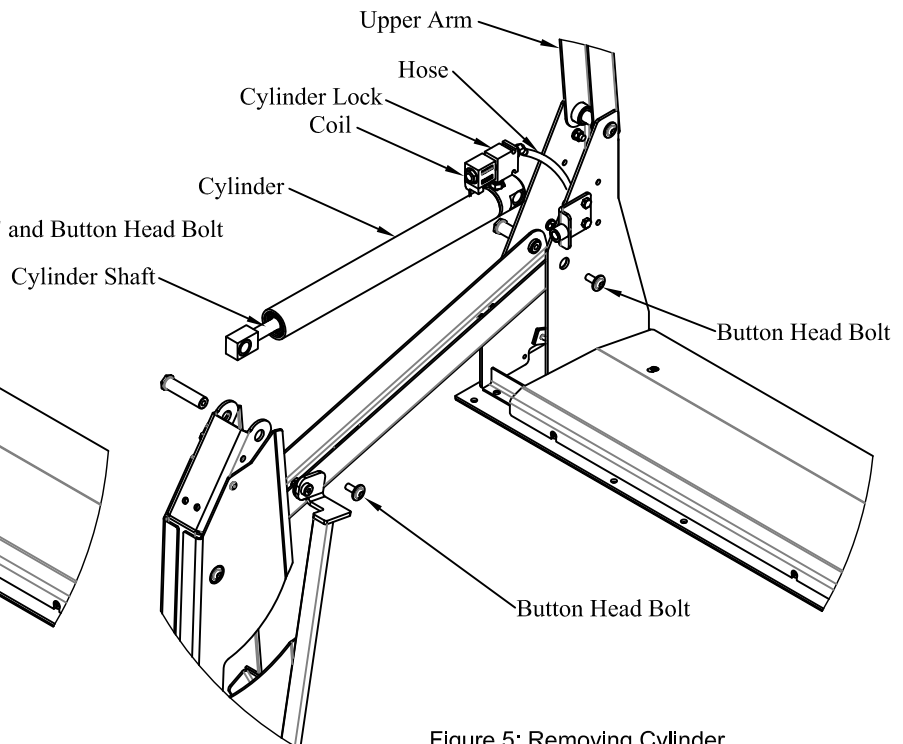

Figure 5: Removing Cylinder.
6. **Rotate** and **Secure** the upper arm out of the way (Figure 5).
10. **Remove** the hose from the cylinder lock (Figure 5).
11. **Remove** the coil from the cylinder lock (Figure 5).
12. **Drive** pin "B" out far enough to remove the cylinder but leave the lower arm in place (Figure 5).
14. **Remove** and **Save** the cylinder lock from the cylinder (Figure 5), if reusing it on the new cylinder.